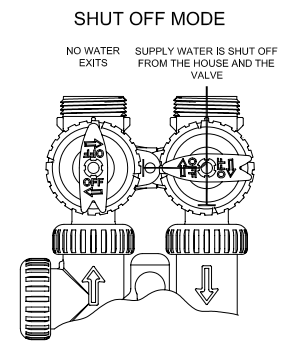

figure 4
4. Shut Off Position: The inlet handle points to the center of the bypass valve and the outlet handle points in the direction of flow, the water is shut off to the plumbing system. If water is available on the outlet side of the filter it is an indication of water bypass around the system (i.e. a plumbing connection somewhere in the building bypasses the system). (see figure 4)